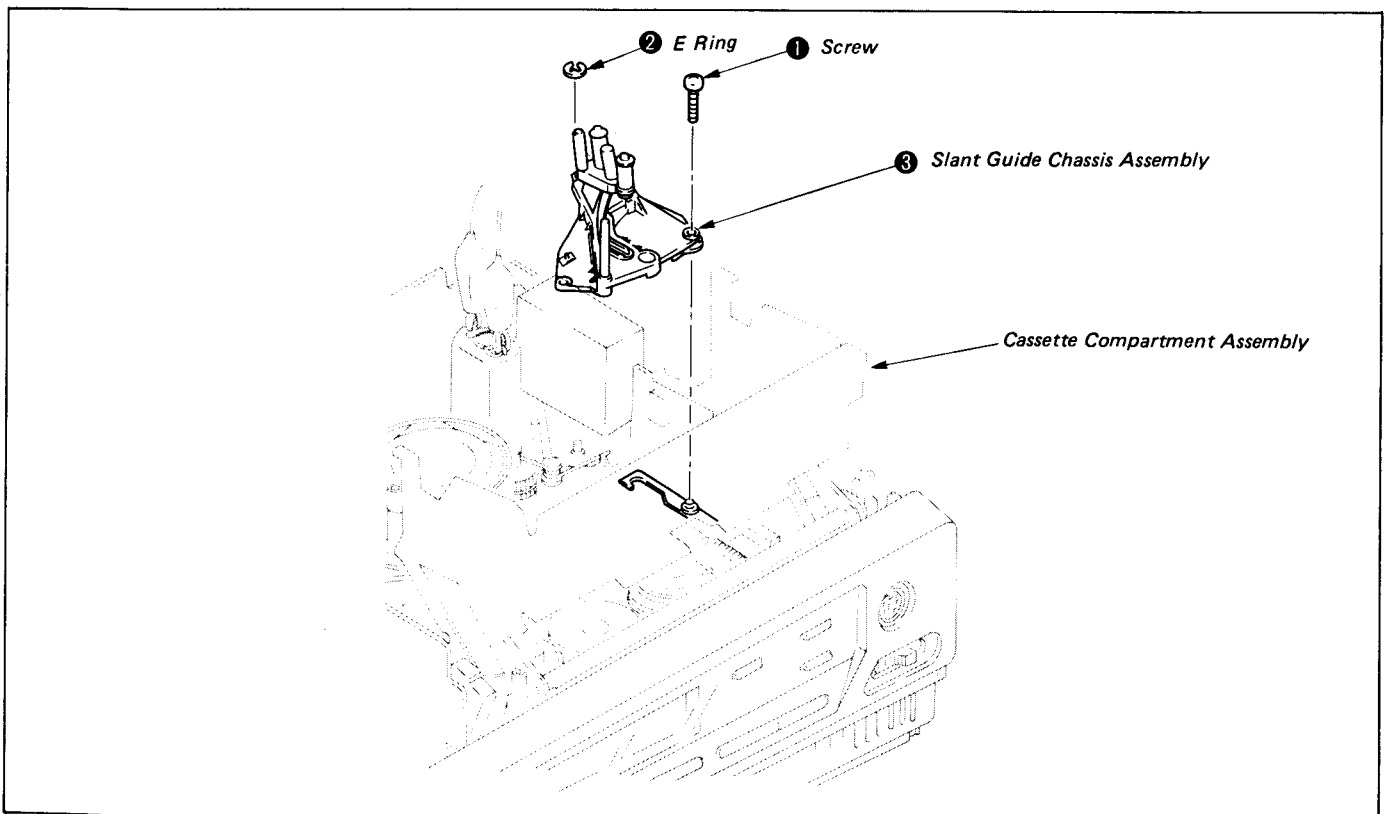

Fig. 1-29
- 3) Remove the screw ① and E ring ②.
- 4) Remove the slant guide chassis assembly ③. (See Fig. 1-29.)
- 3) Refit the E ring ② and tighten the screw ①. (See Fig. 1-29.)